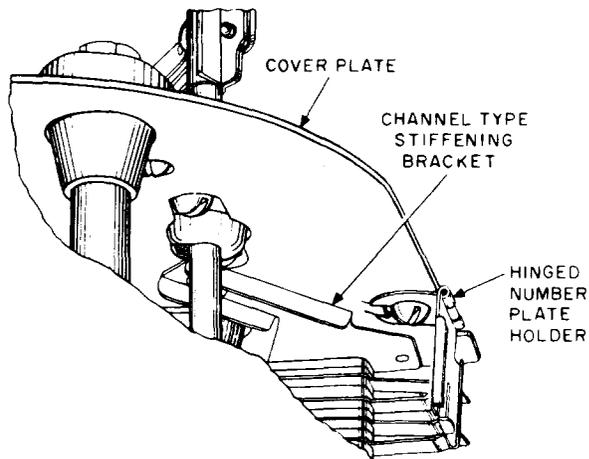

Fig. 1—Channel-Type Stiffening Bracket on Cover Plate
- (a) Clean the upper half of the bank with the switch shaft in the vertical normal position. Hold the KS-16298 handle so the associated KS-16062 L2 rotor is at the right with the discs horizontal and extending toward the bank to be cleaned. Position the rotor at the left of the bank so the discs will enter the five upper levels of the bank with the top level between the second and third discs from the top of the rotor. When cleaning the upper half of banks in the top position on switches having a channel-type stiffening bracket, shown in Fig. 1, place the rotor in the bank with the top level between the first and second discs from the top of the rotor.